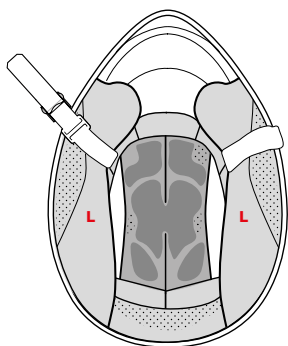

FIGURA 9
**Imbottiture laterali interne: GUANCIALI — L —** Figura 9